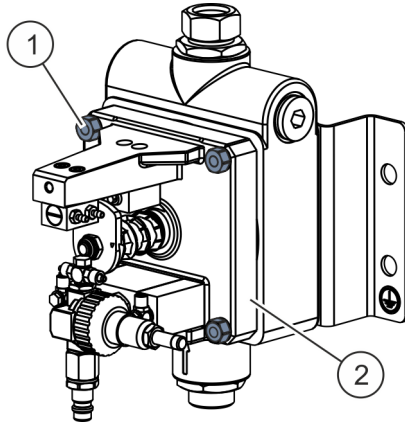

Fig. 14: Timing case
4.  Screw on the timing case (Fig. 14/2) evenly with the nuts (Fig. 14/1) and tighten, torque: 20 Nm.